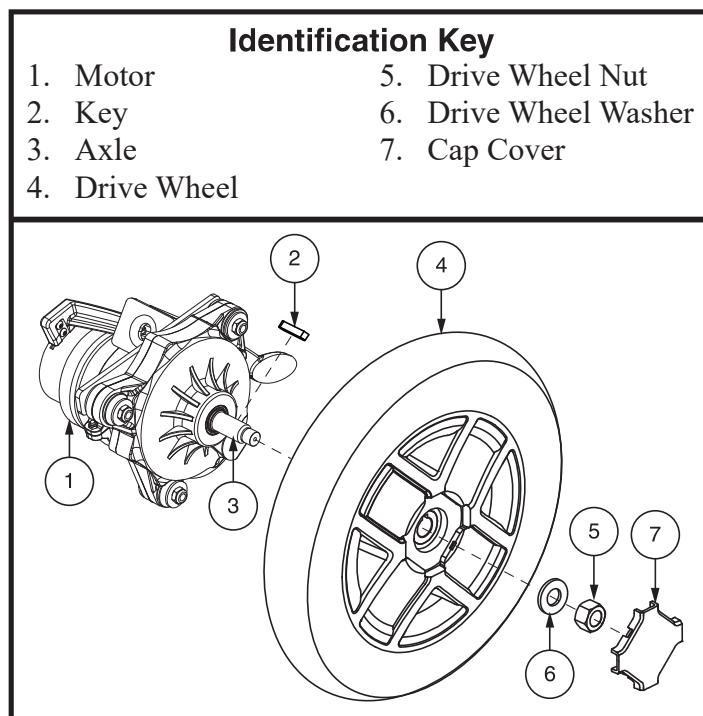

Figure 13. Drive Wheel Removal
4. Remove the cap cover, drive wheel nut, and washer from the axle. **See figure 13.**
6. Remove the screws from the rim assembly and separate the front and rear rim. **See figure 13.**
A battery wiring diagram is printed on a decal located on the front battery tray. See **figure 13**. See VI. "Batteries and Charging" for correct battery specifications.
9. Install new batteries into the power base. Make sure the terminals of each battery are facing toward each other. See **figure 13**.